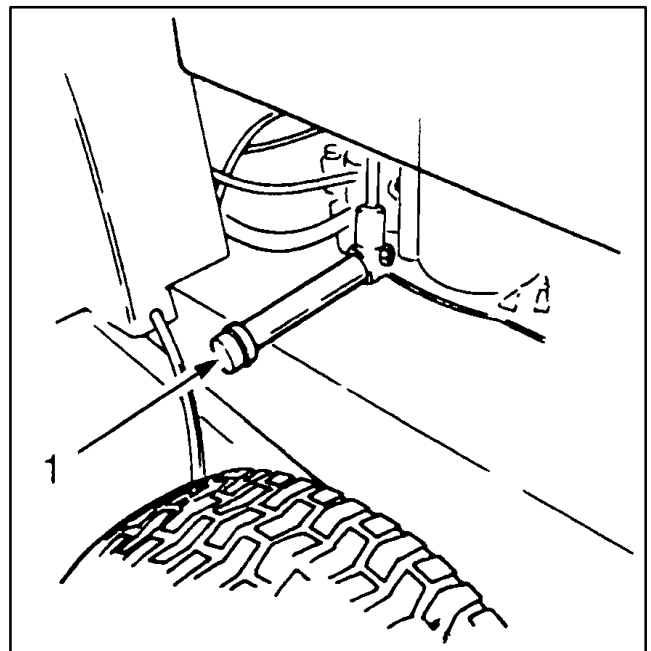

Figure 14
- Turn the engine off and place the drain pan below the drain plug (Fig. 14). Remove the drain plug, and allow all oil to flow into the drain pan. Reinstall the drain plug after oil stops flowing.